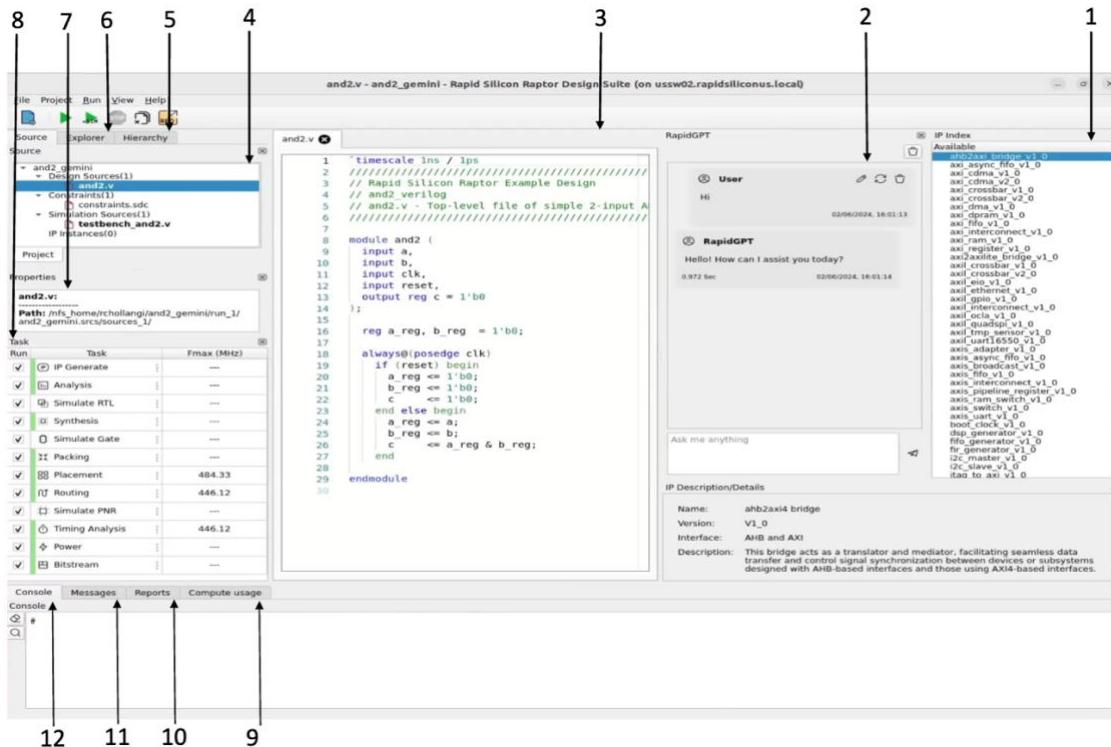

Figure 6. Example Project View
- Run Tcl scripts from the Raptor Design Suite Tcl console within the Raptor GUI (see Figure 6).
Figure 6 shows an example project (and2_gemini) with all main views highlighted. Each number in the figure is described below.